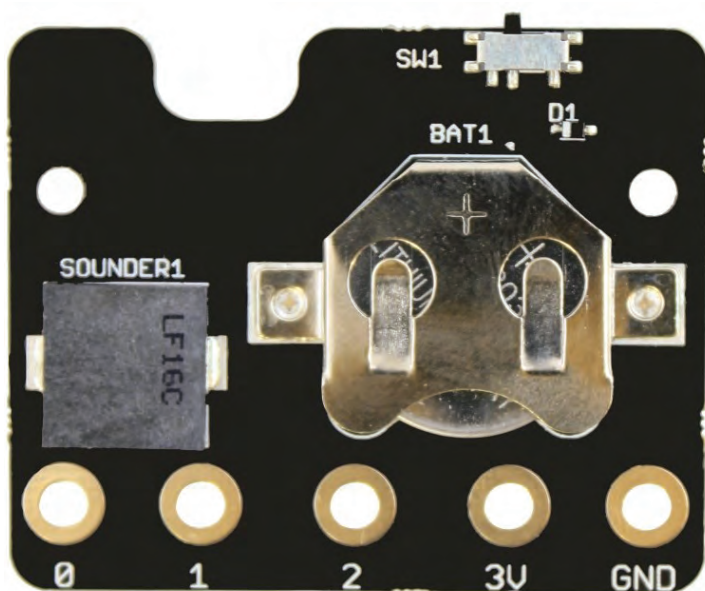

FIGURE 1.8: The MI:power board
- The MI:power board (Figure 1.8)—I don't consider this board as vital as the other two I've mentioned, but it's definitely useful nonetheless. First, it allows you to power your micro:bit using a coin cell battery rather than a bulky pair of AAAs. Second, it mounts to your board as a shield, similar to the Arduino shields, making everything a one-piece set. And finally, it has a piezoelectric buzzer built in, letting you experiment with the sound-making capabilities of the micro:bit without having to make any extra connections.